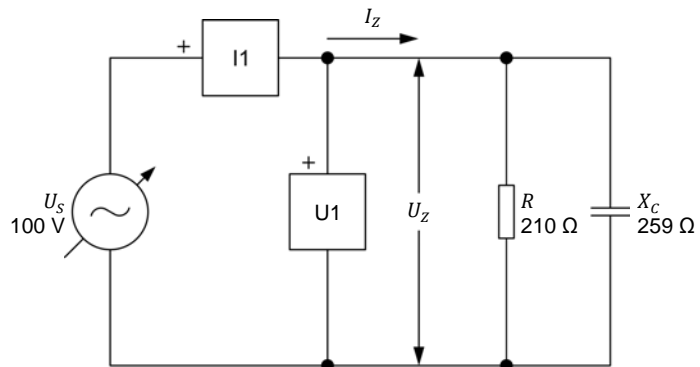

Figure 2-22. Parallel ac circuit containing a resistor and a capacitor.
51. Set up the circuit shown in Figure 2-22.